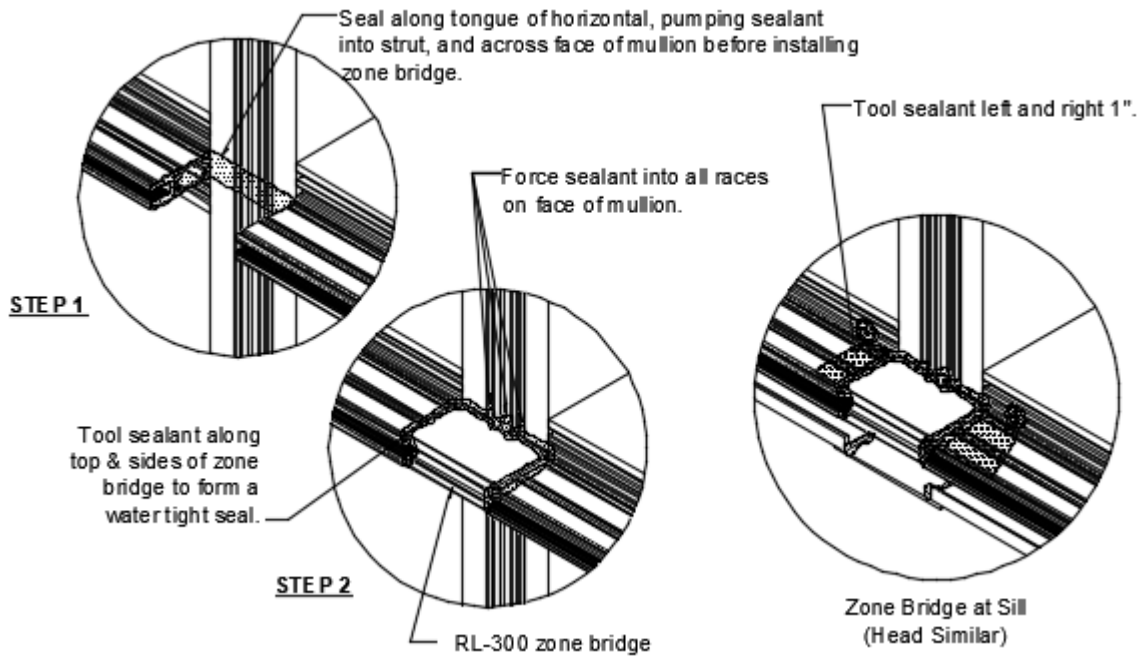

Figure 47: SSG Zone Plug Installation
- 15.5 Apply sealant to all contact surfaces on Vertical and Horizontal mullions where Zone Plugs will be installed. Apply sealant to horizontal tongue receptor on Zone Plug and install at the end of each Horizontal, Head, and Sill. Tool any excess sealant around front end of Zone Plug where thermal spacer abuts. Tool sealant in the glazing pockets to ensure a watertight fit. See *Figure 46* and *Figure 47*.